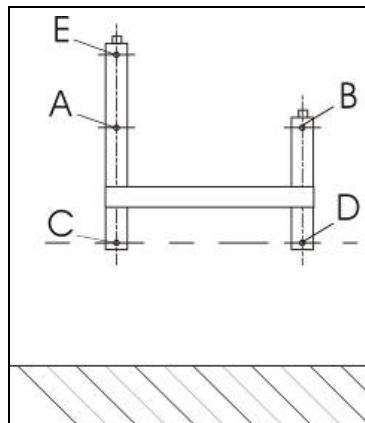

Figure 4.
4. Raise the bracket so that the holes marked **C** and **D** are aligned with the marks already made on the wall in Step 3. Mark the upper holes through holes **E** and **B** as shown in Figure 4.